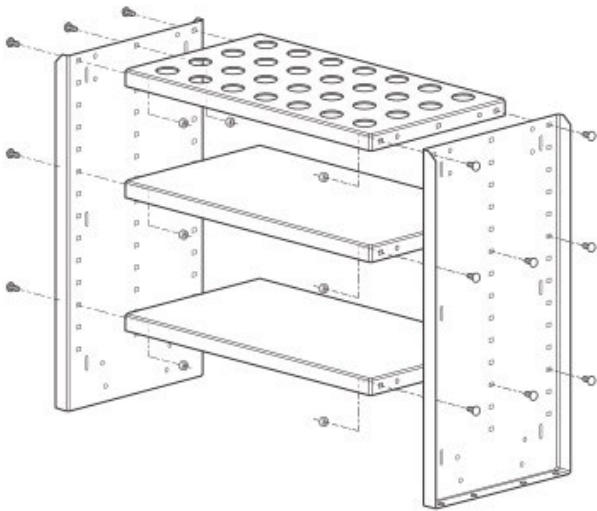

Figure 4-11
1. Using seventeen M8 x 20 Round-Head Square-Neck Carriage Bolts (item #3) with M8 Flanged Nylock Hex Nuts (item #2), attach the two Shelves (item #18) and Tooling Insert Tray (item #1) to the Side Panels (item #4) as shown in Figure 4-11. NOTE: The two shelves (item #18) can be mounted at your desired height. They can also be installed upside down and used as trays. Make sure the flanged ends of the Side Panels are facing out. **Do not fully tighten nuts at this time.**